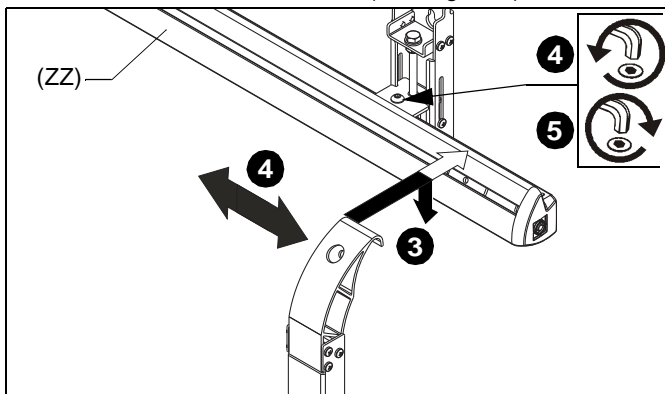

Figure 7
- Hang uprights/cross brackets assembly on the wall assembly (ZZ). (See Figure 7)
- The mounting system may be laterally shifted by loosening the button head cap screw on each wall bracket and moving wall assembly within wall brackets, or by shifting the uprights assembly laterally along the wall assembly (ZZ) to the desired location. (See Figure 7)